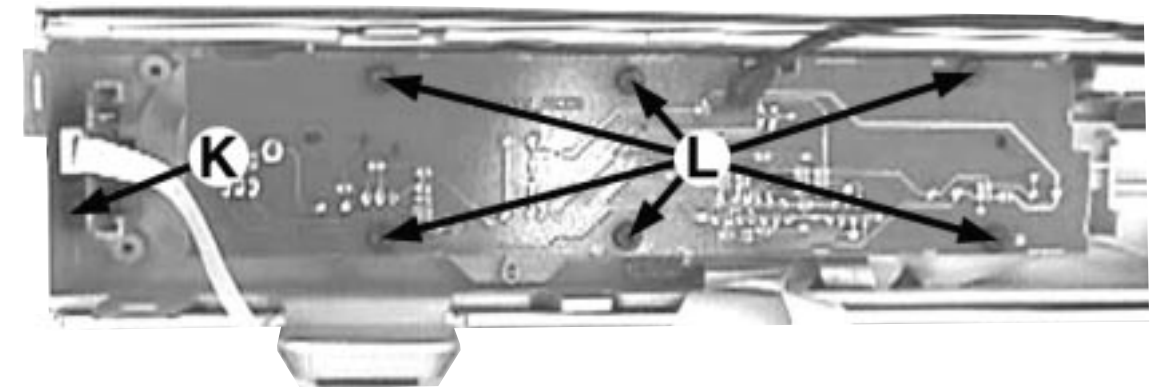

Figure 15
- 1) Remove 1 screw K (see Figure 15) to loosen the Headphone Board (pos 1105-D).
- 2) Remove 6 screws L (see Figure 15) to loosen the Volume & IR Board (pos 1105-C).